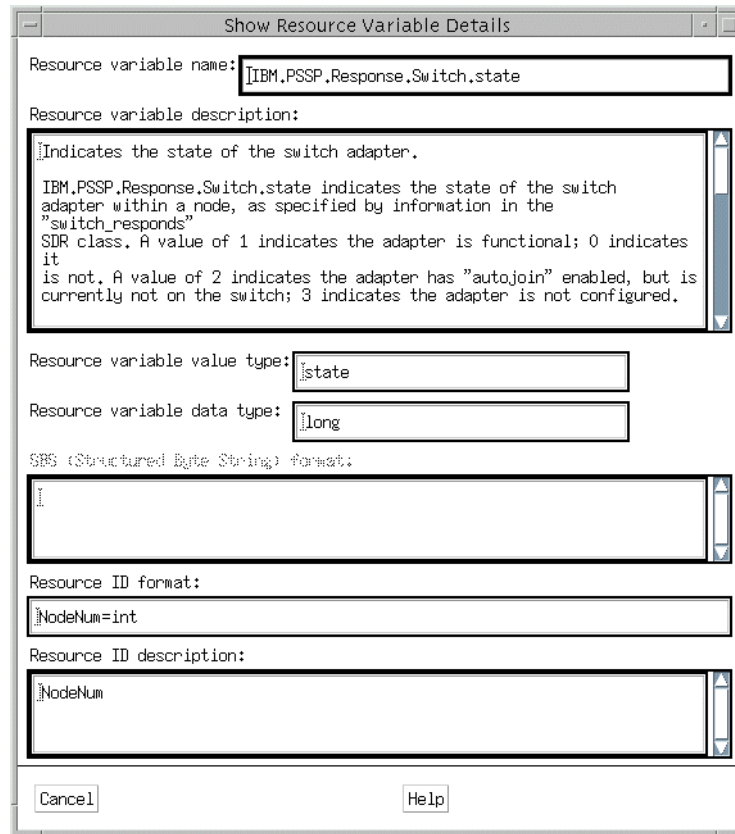

Figure 72. Resource Variable Details window
71. You will see the Show Resource Variable Details window as shown in Figure 72.